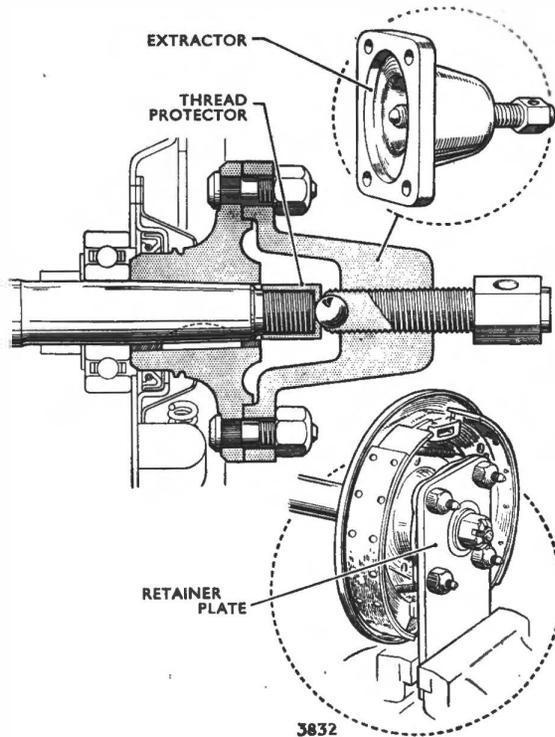

Fig. 4. Hub retainer and extractor in use
after shaft removal (See Fig. 4)**
Clamp the plate securing the shaft in the vice (Fig. 4). Remove split pin, loosen and remove hub retaining nut (50).